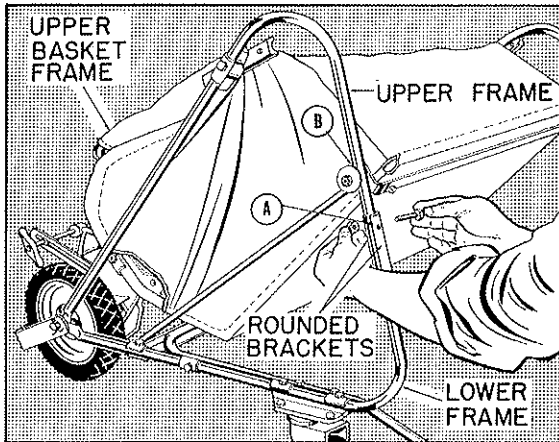

Fig. 1
1. Raise upper frame (see Fig. 1) until end sits on end of lower frame.
2. Position two rounded brackets at Point A, Fig. 1, and hold with two short bolts and two nuts. Assemble opposite side similarly and tighten nuts.
3. At Point B, Fig. 1, release basket bottom from behind upper frame, by lifting up until washer and bolt assembly can be moved toward center of machine. Allow basket bottom to drop to lower frame extension.
4. Swing upper basket frame (see Fig. 1) over to rear of sweeper.